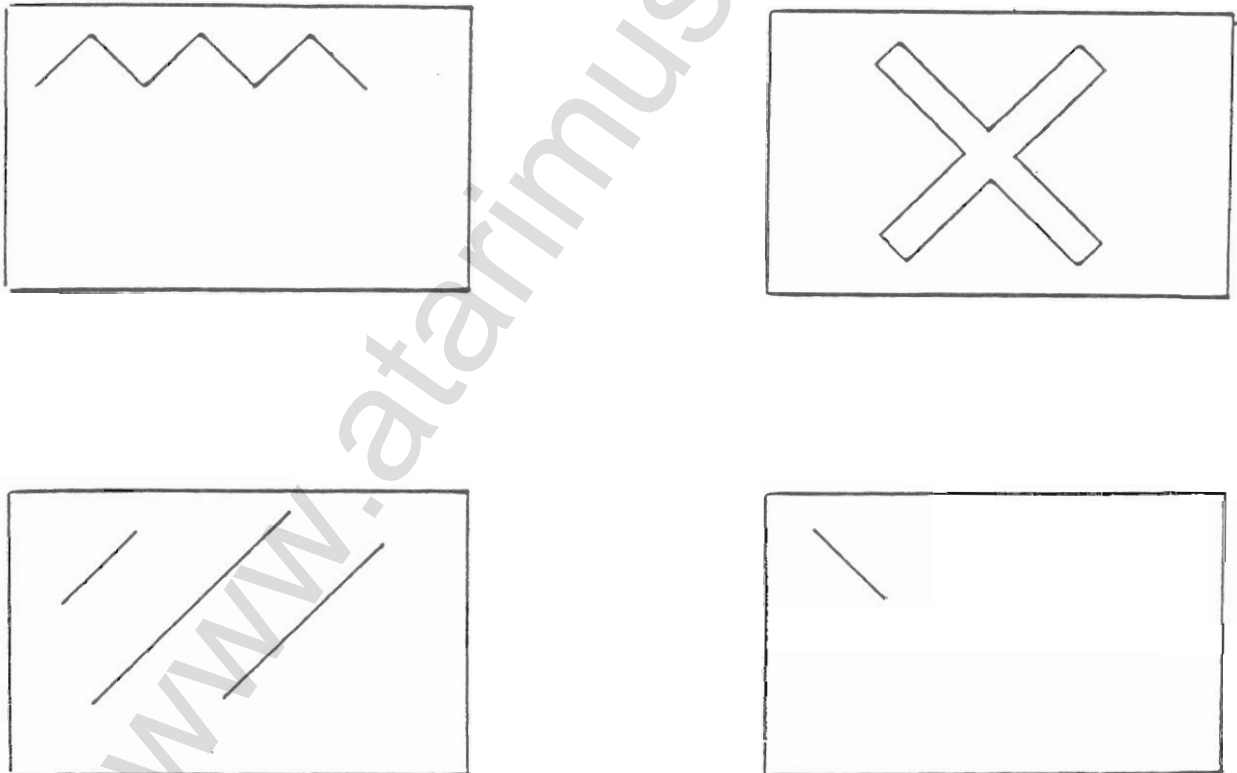

Figure 3-5. Defective RAM I/O Patterns
- Format: At power-up, the television displays solid diagonal of some type if the RAM is defective. Figure 3-5 illustrates some of the known examples of screens which indicate a defective RAM I/O.